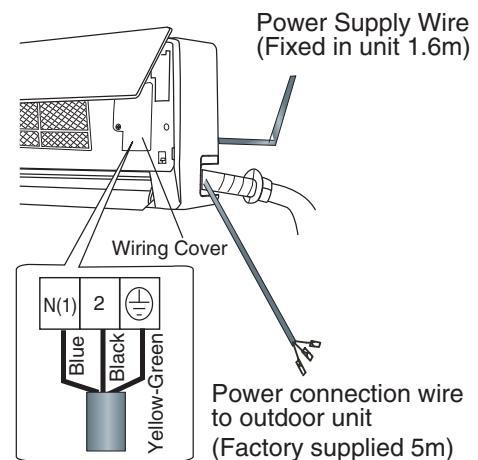

Fig.15 (K9AP, K12AP)
- The power wire and power connection wire are supplied in factory in a fixed length. (Fig.15,16,17)
- Open the surface panel and remove the wiring cover. (Fig.15,16,17)